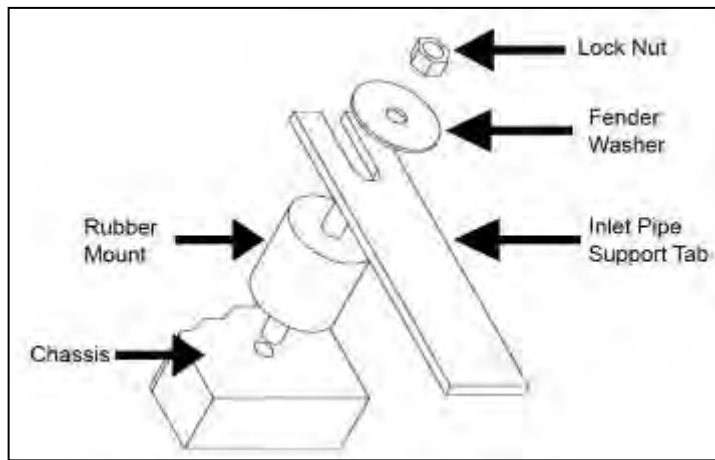

Fig. 7
- c. Install the 2.75" coupler hose onto the turbo inlet tube using a hose clamp. (Fig. 7)